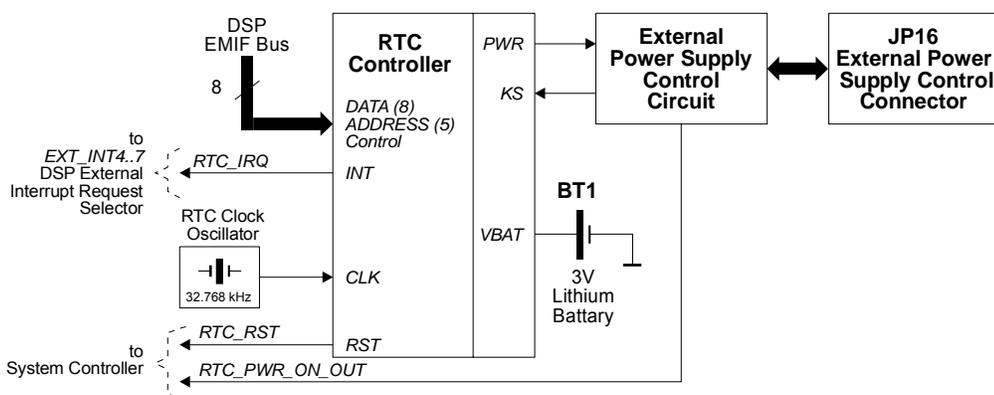

Figure J-1. Connection diagram for *TORNADO-E2/6713* DSP controller on-board RTC.
*TORNADO-E2/6xxx* on-board RTC controller is based around the Dallas Semiconductor DS1501 RTC chip with external back-up battery. Connection diagram for on-board DS1501 RTC controller is shown at Figure J-1.
DS1501 RTC always generates DSP reset signal via *RTC\_RST* RTC output signal (refer to Figure J-1) on power-on and power-off conditions, and can be configured to generate DSP reset on programmable RTC WDT expiration event. DS1501 on-chip WDT can generate WDT expiration event within 0.01..99.99 sec time interval with resolution 0.01 sec, which is important for DSP applications with reduced system restore latency.
*TORNADO-E2/6xxx* supports remote control of external power supply control in order to perform system wakeup at programmable time instant and/or on kickstart condition. These features are provided via on-board DS1501 RTC controller (Figure J-1). External power supply used must support remote control and provide compatible I/O interface.